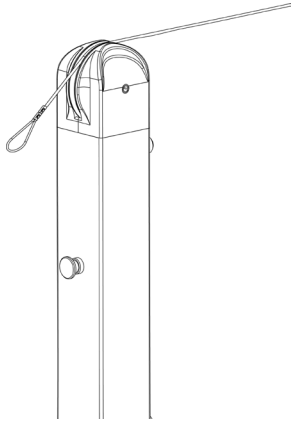

Figure 6
**STEP 6:** Place one end of the top cord cable over the pulley of Post B (Item # 2) and attach the cable loop around the net hook on the backside of the post. See Figure 6 & 7.